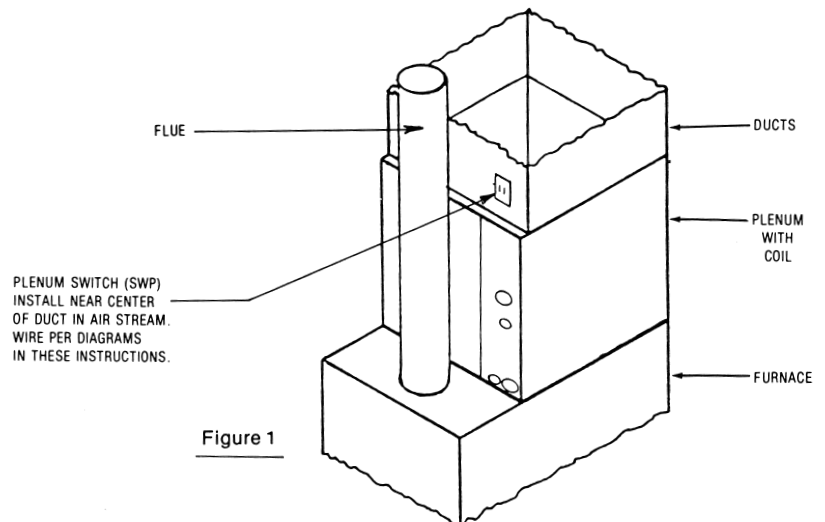

Figure 1
Install the F01 Outdoor Thermostat enclosure in a location such that at least 10" of the thermostat bulb will be exposed to the outdoor temperature. Make low voltage wiring connections according to wiring diagram included with outdoor unit and the kit. Install the plenum switch in the supply air stream from the coil and wired per the diagram provided (Figure 1).
- C. During defrost, the furnace will be operated by the plenum switch (see Figure 1) whenever the supply air temperature drops below 95°F (35°C) and off when the air temperature increases above 110°F (43°C). Blower will continue to run in cooling speed.
The F02 kit wiring board should be located in a dry and convenient location for wiring, usually near the furnace. Install the F02 Outdoor Thermostat enclosure in a location such that at least 10" of the thermostat bulb will be exposed to the outdoor temperature. Make low voltage wiring connections according to wiring diagram included with outdoor unit and the kit. Install the plenum switch in the supply air stream from the coil and wired per the diagram provided (Figure 1).
- C. During defrost the furnace will be operated by the plenum switch (see Figure 1) whenever the supply air temperature drops below 95°F (35°C) and off when the supply air temperature increases above 110°F (43°C). Blower will continue to run in cooling speed.